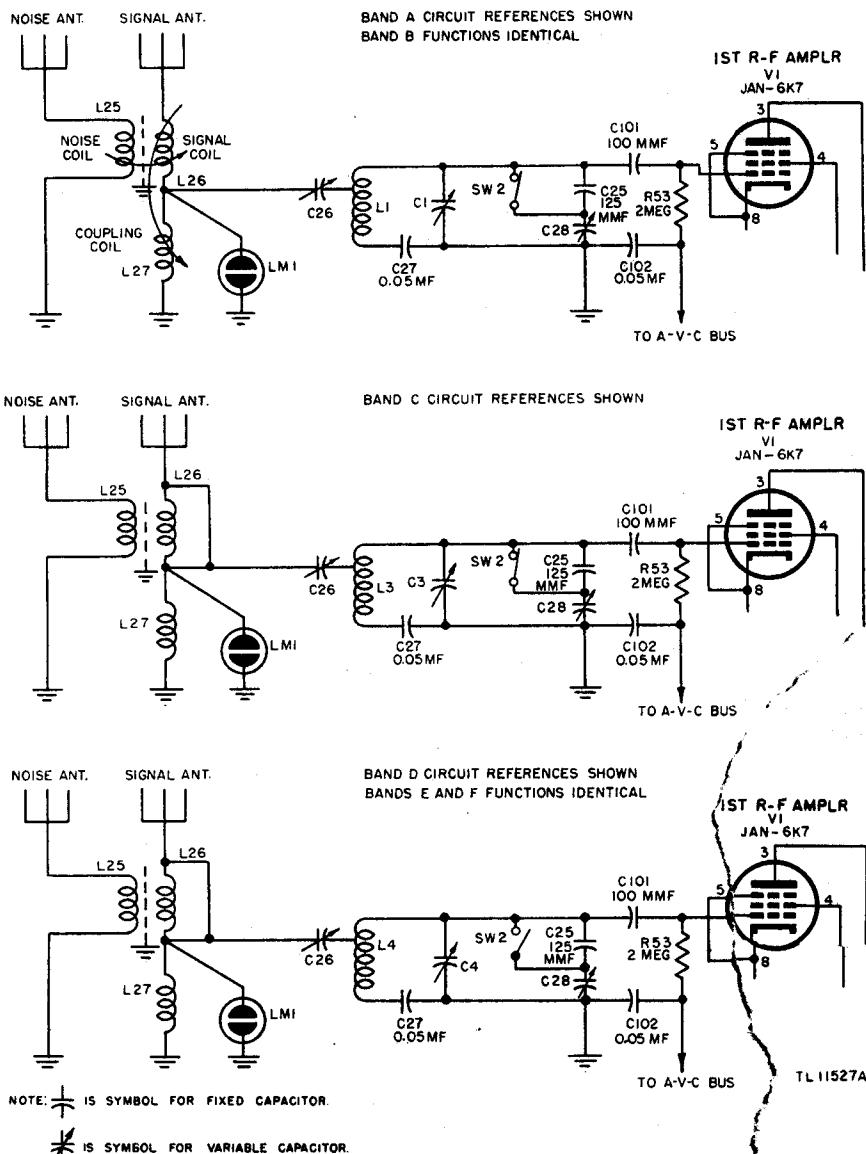

Figure 20. Antenna noise-suppression circuit.
b. A noise-suppression circuit is included in the antenna portion of Radio Receivers BC-312, BC-312-A, BC-342, and in earlier models of Radio Receivers BC-312-C and BC-342-C. The noise suppression circuit (fig. 20) is provided to reduce motor ignition interference when the receiver is mounted in a vehicle. This circuit consists of three coils, L25, L26, and L27. Coils L25 and L26 are separated by an electrostatic shield to insure that the coupling between them is entirely electromagnetic, while coils L26 and L27 are separated by an electromagnetic shield to insure that the coupling between them is primarily electrostatic. Both couplings are adjustable. A NOISE BALANCE control is provided on the front panel to adjust the coupling between coils L25 and L26 and serves to adjust the amount of noise introduced into the receiver circuits from a noise antenna located alongside of the vehicle engine. The coupling between L26 and